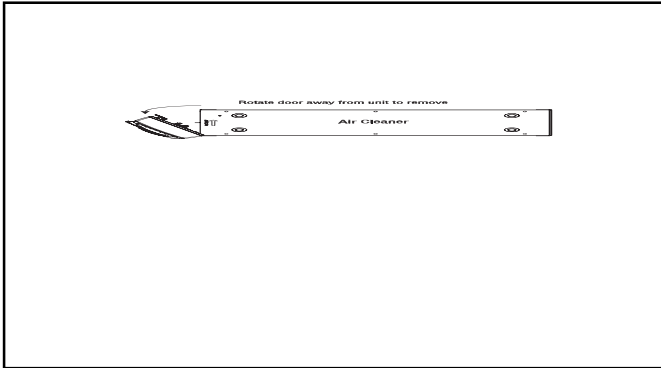

Figure 11 Door Rotation
Step 2: Rotate the door to fully remove from the air cleaner. See Figure 11.